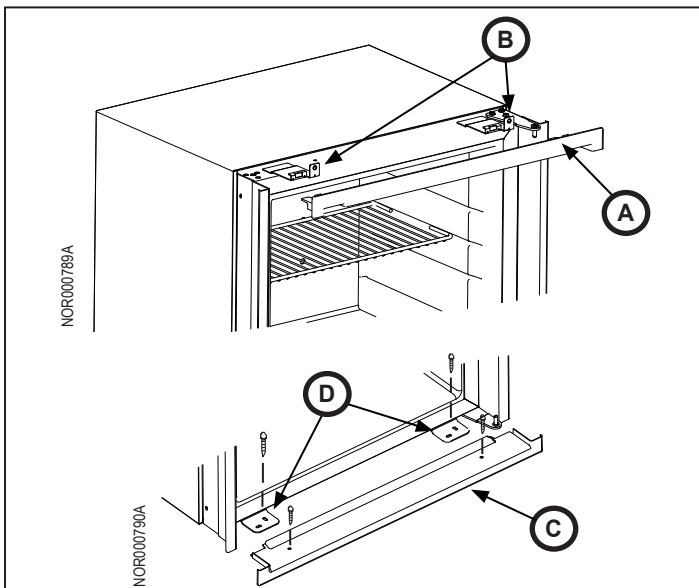

Fig. 5 - Refrigerator Mounting Screws
2. Pull the upper trim (Fig. 5, A) off of the front of the refrigerator. Set aside.
3. Remove screws (2x) from the upper mounting brackets (Fig. 5, B) of the refrigerator. Set aside.
4. Remove screws (2x) from the lower trim (Fig. 5, C) on the front of the refrigerator. Set aside.
5. Remove screws (2x) from the lower mounting brackets (Fig. 5, D) on the front of the refrigerator. Set aside.